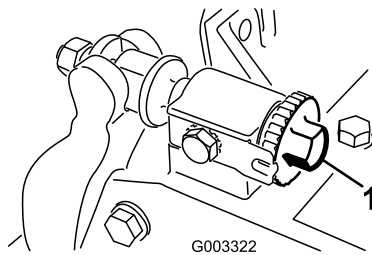
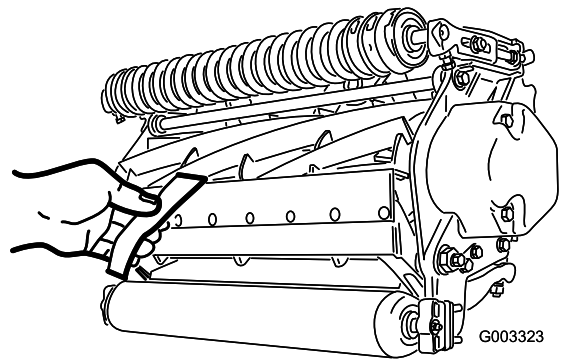

Figure 12
Figure 13
1. Position machine on a flat, level work surface. Make sure reel contact is removed by turning bedbar adjusting screws counterclockwise (Figure 12).
Important: Make sure nuts on back end of bedbar adjusting screws are not resting on the work surface (Figure 12).
3. At one end of reel, insert a strip of newspaper between reel and bedknife (Figure 13). While slowly rotating reel forward, turn bedbar adjusting screw (Figure 12) clockwise (on same end of reel, one click at a time, until paper is pinched lightly, when inserted from the front, parallel to the bedknife. A slight drag will be noted as the paper is pulled.
5. After adjustment is accomplished, check to see if reel can pinch paper when inserted from the front and cut paper when inserted at a right angle to the bedknife (Figure 13). It should be possible to cut paper with minimum contact between the bedknife and the reel blades. If excessive contact/reel drag is evident it will be either necessary to back lap or regrind the cutting unit to achieve the sharp edges needed for precision cutting (Refer to the Toro manual for Sharpening Reel and Rotary Mowers, Form No. 80-300PT).